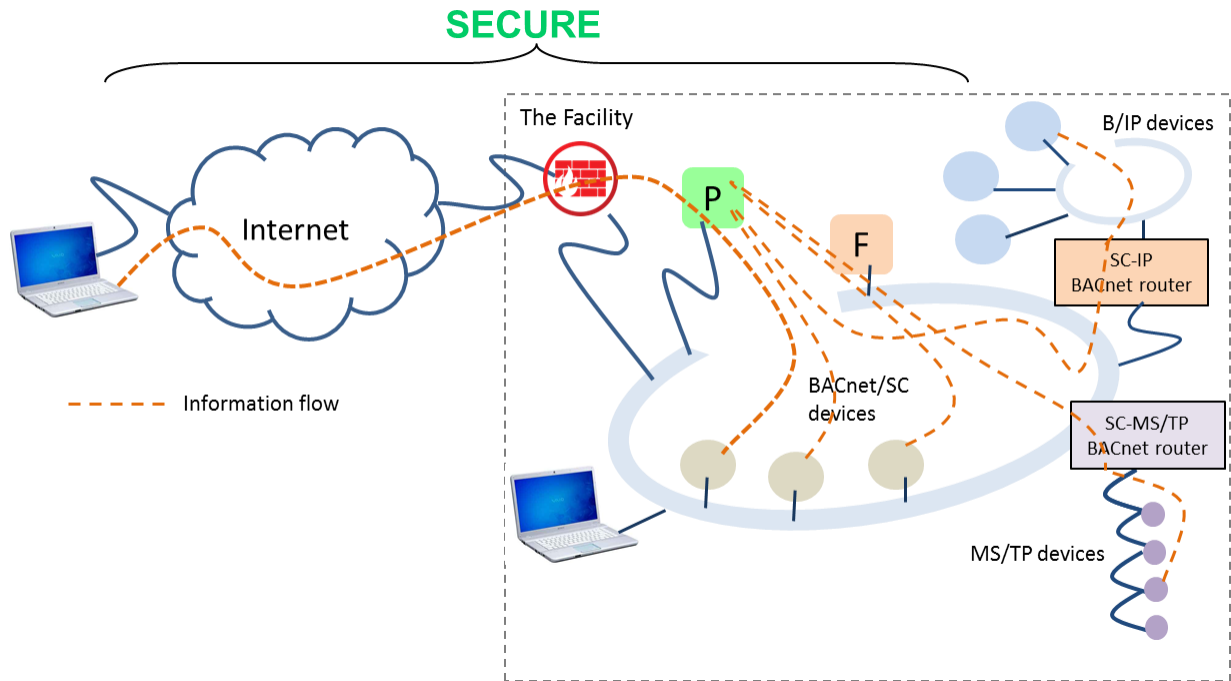

Figure 3: Mixed Scenario—Secure Access Outside and within the Facility with Isolated Areas
- BACnet/SC hub (“P” in Figure 3)
- (Optional) BACnet/SC failover hub (“F” in Figure 3)